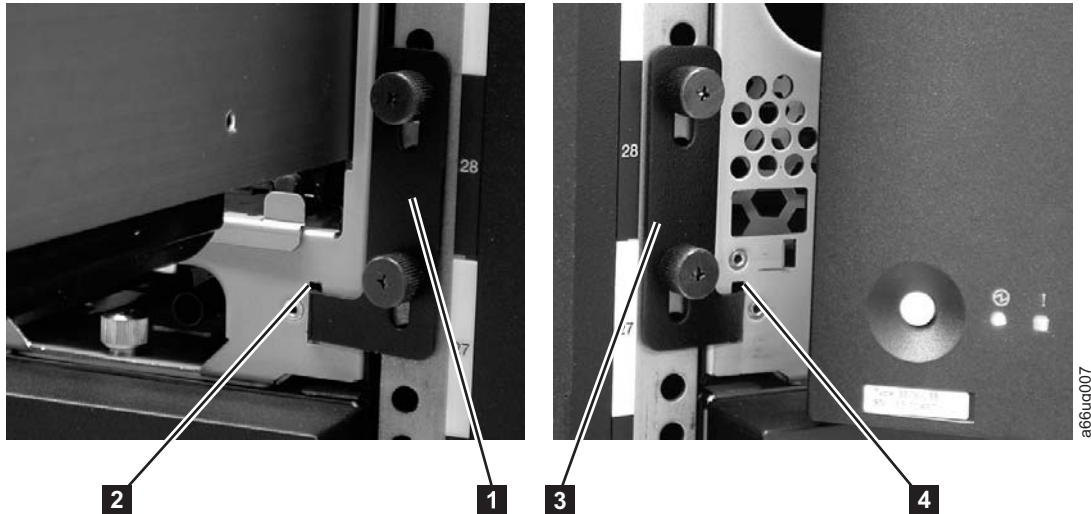

Figure 3-33. Installing the rack ears on a control module
1. Install the right rack ear (**2** in Figure 3-33 on page 3-31).
- a. At the lower right of the I/O station position on each library module, there is a slot (**2** in Figure 3-33). Insert the right rack ear (**1** in Figure 3-33 and **7** in Figure 3-12 on page 3-11) into the slot.
2. Install the left rack ear (**3** in Figure 3-33 and **6** in Figure 3-12 on page 3-11).
- b. Grasp the hinged side of the door and, while you are pulling on the door, push to the right to expose the slot (**4** in Figure 3-33) for the left rack ear.
- c. Insert the left rack ear (**3** in Figure 3-33) into the slot.